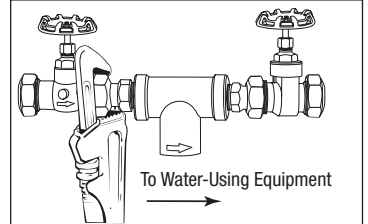

Figure 5
- Tighten all compression nuts firmly, keeping the SF18-S head assembly vertical. (Figure 5)